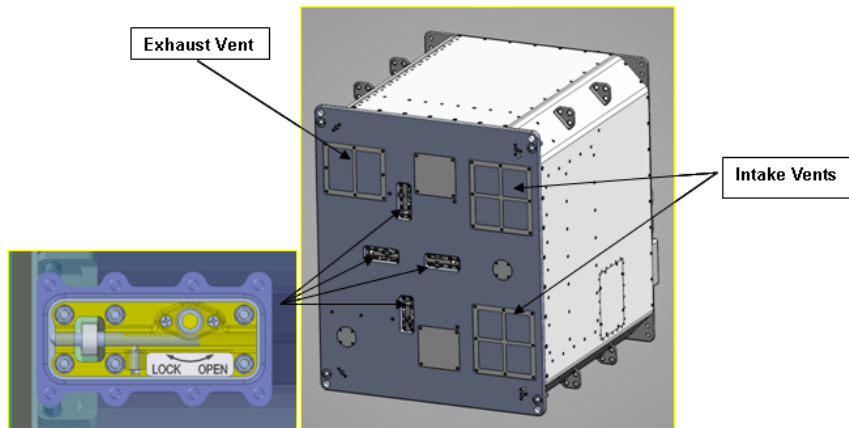

Figure 2. Cryocooler Launch Locks and Vents on Rear of Glacier.
- 8. Clean the Glacier rear intake and exhaust vents with gray tape (see Figure 2).
- 9. Push in and rotate clockwise cryocooler launch locks (four) at rear of Glacier until locking pin is engaged (LOCK) (3/16" Hex Head, 3/8" Drive; Driver Handle, 3/8" Drive) (see Figure 2).
1 Glacier Ascent Glacier until locking pin is disengaged (OPEN) (3/16" Hex Head, 3/8" Drive; Driver Handle, 3/8" Drive) (See Figure 2).
12.2 Clean the Glacier rear intake and exhaust vents with gray tape (see Figure 2).